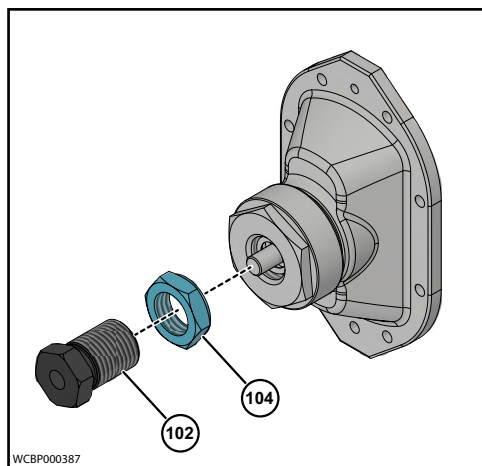

Figure 87 - Remove Adjusting Screw
1. Loosen the Locknut (104) then unscrew the Adjusting Screw (102) from the cover nut, as shown in Figure 87.